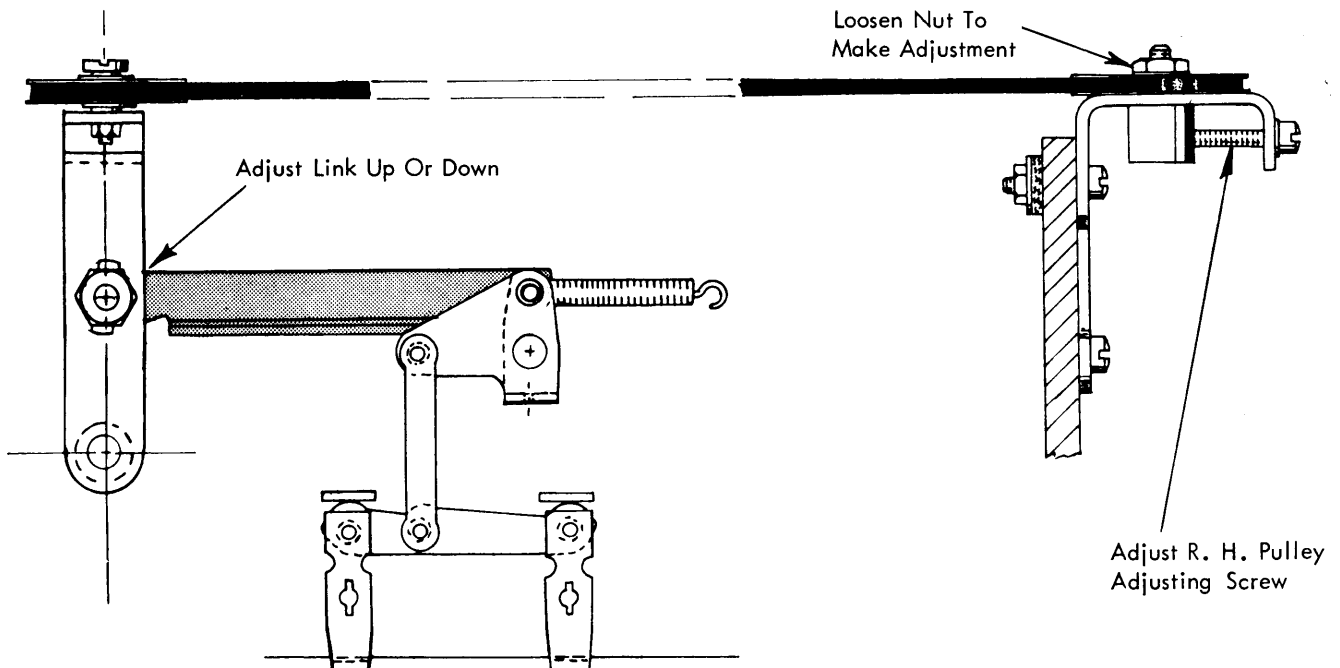
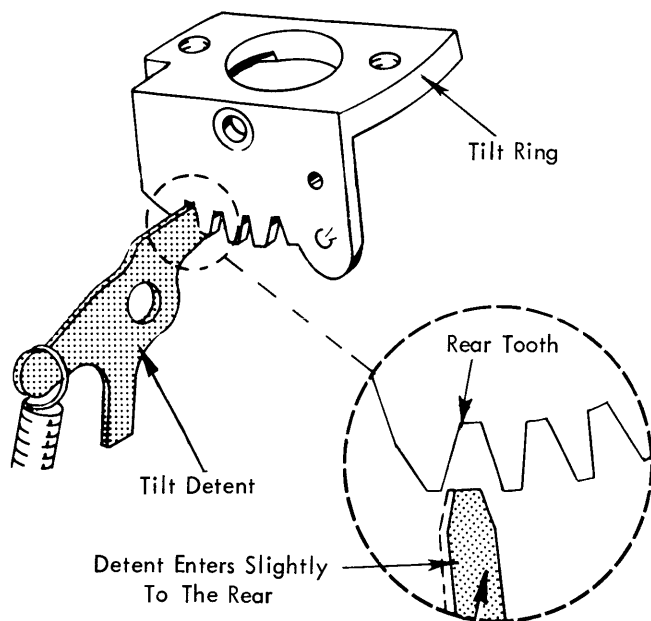

FIGURE 48. Tilt Mechanism
FIGURE 49. *Rough Homing*
3. Tilt Arm Motion - Adjust the tilt link up or down on the tilt arm (Figure 48) to control the tilt ring motion so that the tilt ring will coarse align the same for a 3-tilt character as it does for a zero-tilt character.
In order to check this adjustment, it is necessary to roughly home the tilt ring first. To rough home, half-cycle a zero-tilt character and adjust the right hand tilt pulley (Figure 48) so that the tilt detent will enter slightly on the rear side of the V-shaped detent notch in the tilt ring when the tilt ring play is removed in the restoring direction (Fig. 49). As the tilt detent is allowed to seat itself, the rear of the tilt ring should rise slightly. This is a preliminary adjustment and will require refinement after the proper tilt arm motion is obtained.